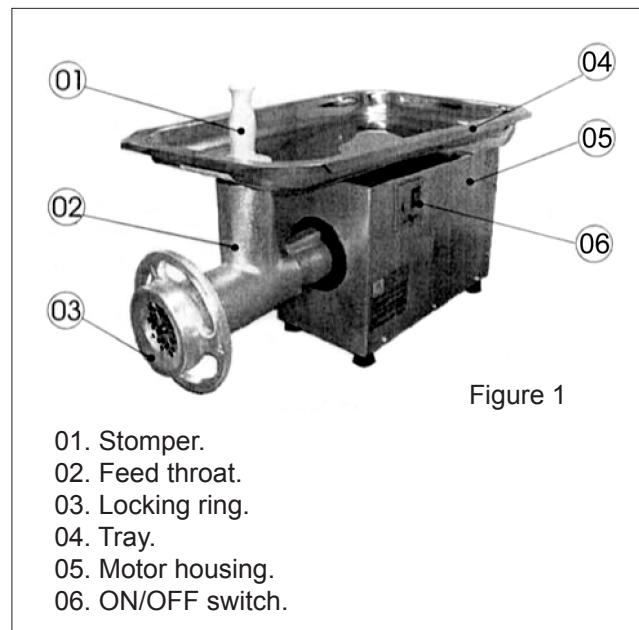

Figure 1
The feed throat (No. 02; figure 1) and worm (No. 03; figure 2) receive an special treatment to isolate and facilitate the cleaning.
3. Using the stomper (No. 01; figure 1), push the meat into the feed throat where they will be sucked in by the worm.
- Remove pusher (No. 01; figure 1) and tray (No. 04; figure 1).
- Remove locking ring (No. 03; figure 1), turning it clockwise, and the internal components of the barrel,